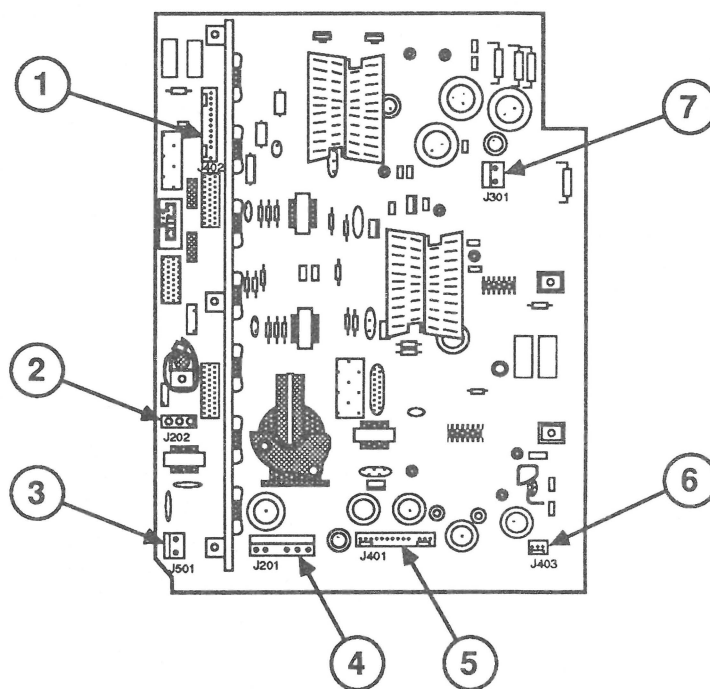

FIGURE 16
6. Disconnect from the main board the connectors listed in Table 3 and shown in Figure 16. To reach the connectors at the bottom of the logic board, you may need to pull the board halfway out of the chassis frame. **Leave the wires connected to the video board assembly.**